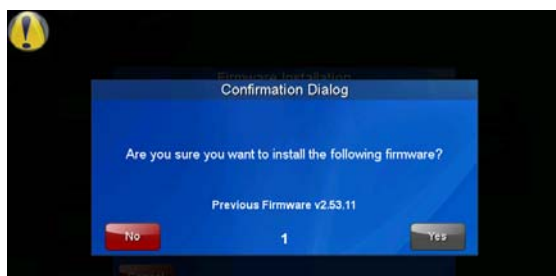

FIG. 101 Previous Firmware installation confirmation dialog box
4. The *Confirmation Dialog* box (FIG. 101) will ask “Are you sure you want to install the following firmware?” The option to choose **Yes** will be enabled after five seconds. Press **Yes** to load the firmware listed, and **No** to return to the *Firmware Installation* popup window.